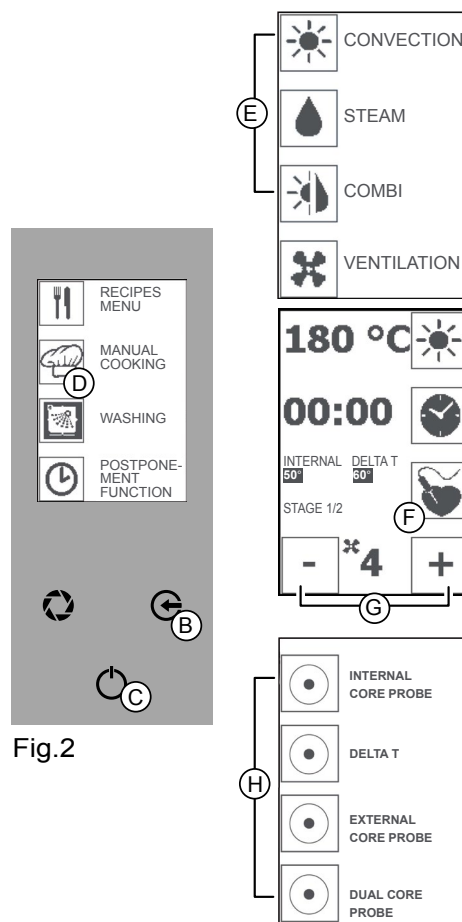

Fig.2
2. Close the door of the oven, press the “GO!” icon and press the “MANUAL COOKING” icon (Fig 2/D).
Select a cooking mode (Fig.2/E).
3. Press the “CORE PROBE” icon (Fig 2/F) and the “CORE PROBE INT or EXT” (Fig 2/H) icon. Press the “CORE PROBE” icon (Fig 2/F) and use the “MINUS” and “PLUS” icons (Fig 2/G) to set the temperature for the core probe. Press the “CORE PROBE” icon (Fig 2/F) to confirm.
Press the “ENTER” key (Fig 2/C) to start cooking.
Press the “ENTER” key (Fig 2/C) and press the “ESC” key (Fig 2/B) several times to return to the Home Page.
3. Press the “CORE PROBE” icon (Fig 2/F) and the “DELTA T” icon (Fig 2/H). Press the “CORE PROBE” icon (Fig 2/F) and use the “MINUS” and “PLUS” icons (Fig 2/G) to set the temperature for the probe. Press the “CORE PROBE” icon (Fig 2/H) and use the “MINUS” and “PLUS” icons (Fig 2/G) to set the permanent temperature difference between the cooking compartment and the core probe (between **20 °C and 120 °C**). Press the “CORE PROBE” icon (Fig 2/H) to confirm.
Press the “ENTER” key (Fig 2/A) to start cooking.
Press the “ENTER” key (Fig 2/C) to stop the function and press the “ESC” key (Fig 2/B) several times to return to the Home Page.